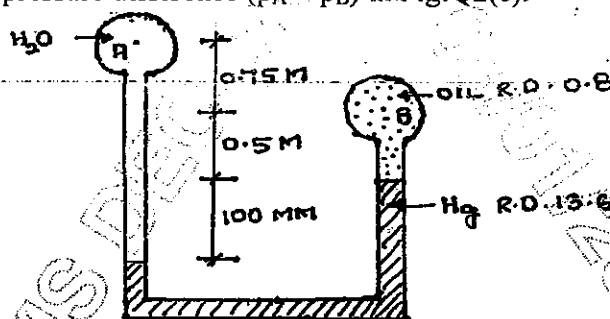

Fig. Q2(c)
- c. Determine the pressure difference ($p_A - p_B$) in Fig. Q2(c).